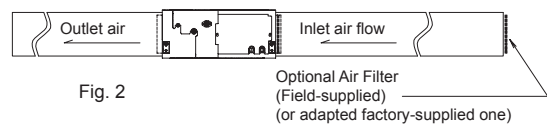

Fig. 2
- In case of applying Suction Duct, it is recommended to apply Air Filter at the inlet point of Suction Duct, removing the standard Air Filter of the unit (fig. 2) and (fig.4)